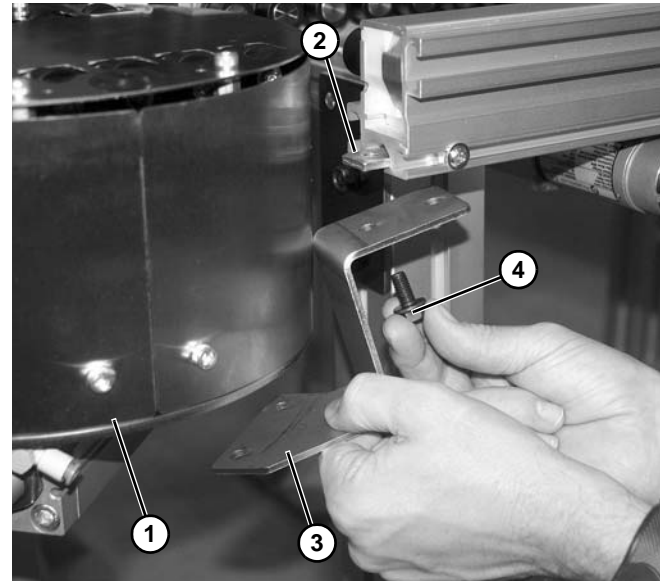

Figure 72
1. For installing conveyor to turn and transfer (Figure 72, item 1), install connecting strips (Figure 72, item 2) into conveyor channels. Install tie bracket (Figure 72, item 3) with two screws (Figure 72, item 4).